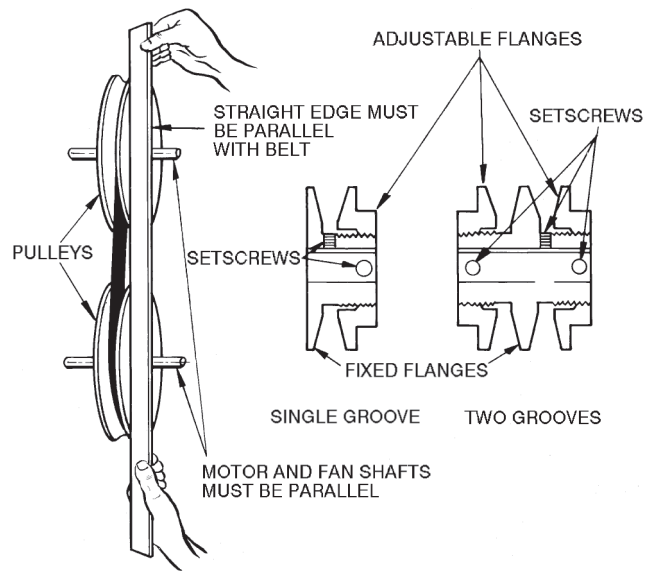

Fig. 26 - Fan Pulley Adjustments
3. Use the methods shown in Fig. 26 to check proper pulley alignment.
2. Loosen setscrew in moveable flange of pulley. Screw moveable flange toward fixed flange to increase the fan speed and away from fixed flange to reduce speed. Before tightening setscrew, make certain that setscrew is over nearest flat surface of pulley hub (Fig. 26).